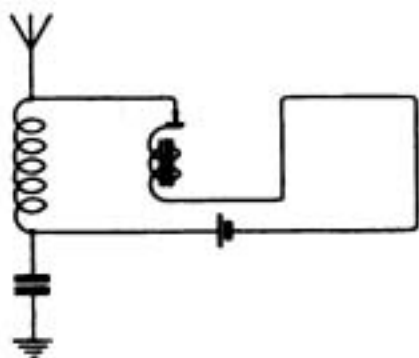

Fig. 2.
TYRO (Yarmouth)—(1) The serial series condensers should be smaller than you suggest, say $\frac{1}{2}$ as large in each case. The buzzer circuit is not quite correct; arrange as in Fig. 2.